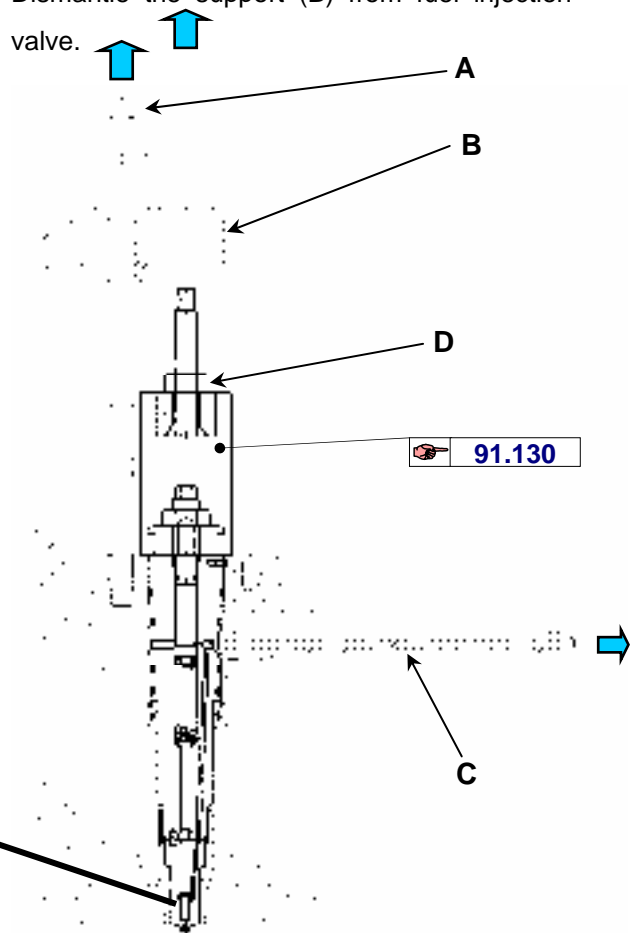

Fig.1 Dismantling of fuel injection valve (연료 분사 밸브의 분해)
3. Install the removal device on the fuel injection valve as shown in fig 1.